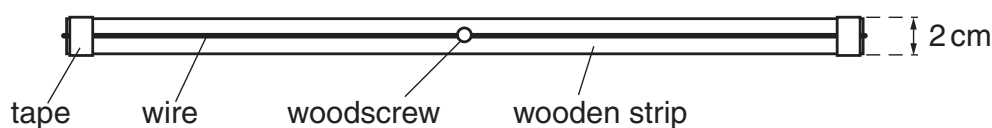

Fig. 1.1
- 1 Screw the woodscrew into the wooden strip half-way along its length. Wrap the middle of the resistance wire tightly around the woodscrew. Wrap the ends of the resistance wire over the ends of the wooden strip, and secure them with tape, as shown in Fig. 1.1.